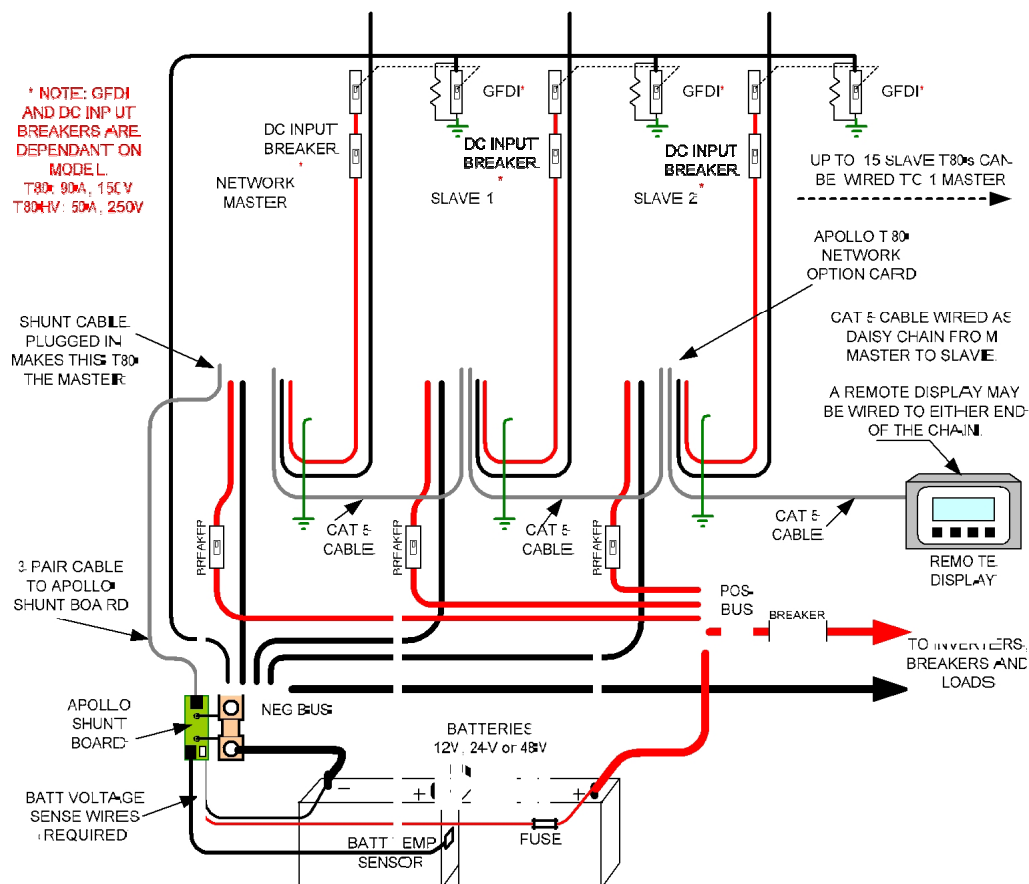

Figure 1: Network Wiring Diagram
1. Connect the TurboCharger™ units to the battery bank and PV arrays with both the input (PV) and output (battery) breakers off. The unit with the Apollo Shunt connected to it will be the Master Unit and the others (up to 15) will be Slave Units. **Note: T80s and T80HVs may be mixed in a networked system.**
2. Connect all units with 4 wire modular cables. As Shown in Figure 1.